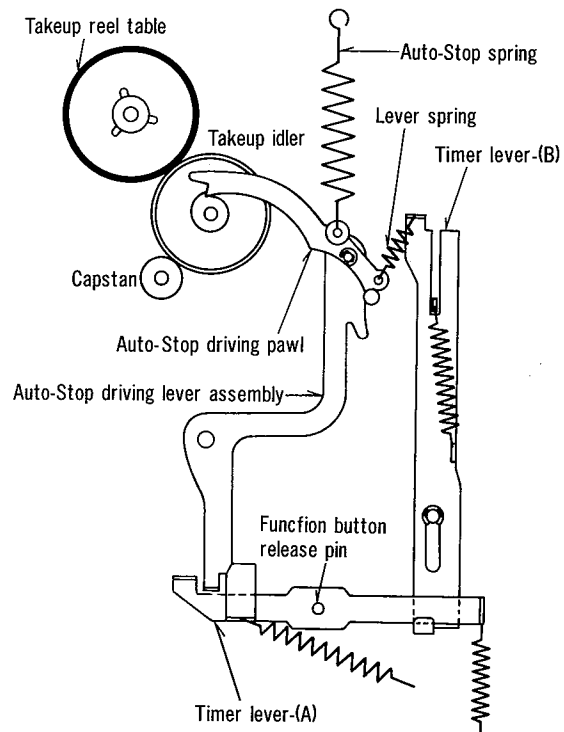

Fig. 4
The fig. 4 shows the operation order of the ordinary Auto-Stop mechanism.
(5) Digital electronic counter
- a. Number of figure: 4 (decimal system)